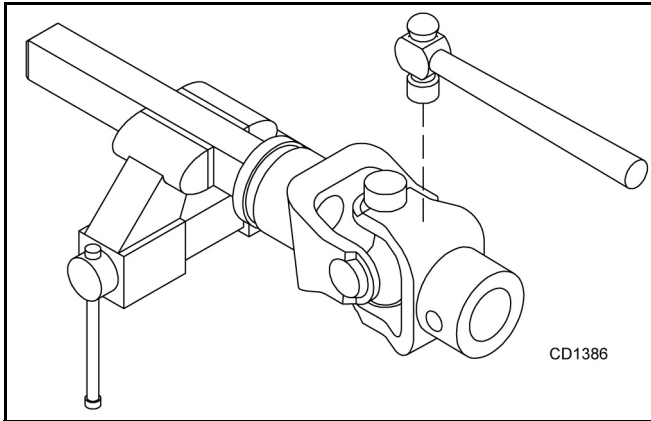

Figure 16
2. With snap rings removed, support drive in vise, hold yoke in hand and tap on yoke to drive cup up out of yoke. See Figure 16.